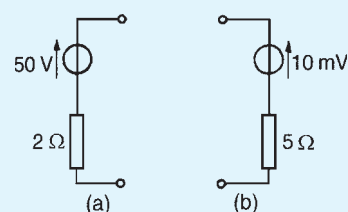

Figure 13.76
- Convert the circuits shown in Fig. 13.76 to Norton equivalent networks.